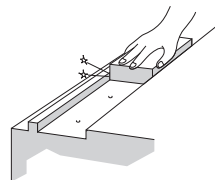

Fig.6 Checking the Mounting Surface
- (1) Be sure to remove burr, dent and dust from the mounting surface of the machine to which the LM Guide is to be mounted before installing the LM Guide. (Fig.6)